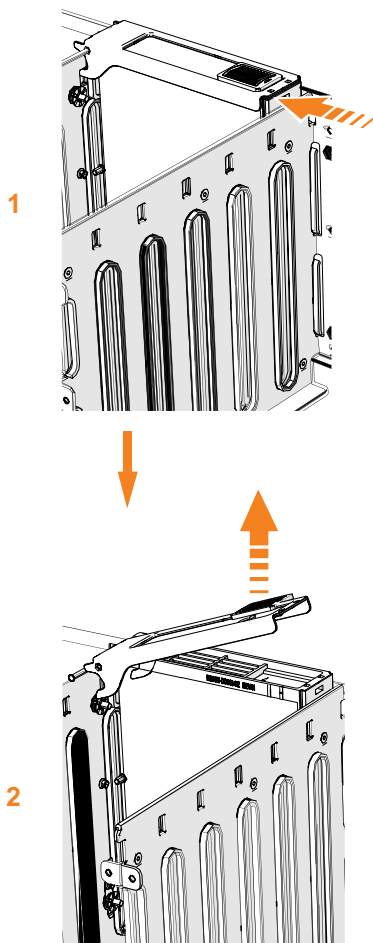

Figure 109. Remove the drive assembly
- Slide the release latch forward (**1**), as shown in Figure 109 on page 117.
6. Lift the handle (**2**) to unlock the drive carrier from the partition, as shown in Figure 109. Ensure the toe on the bottom of the latch is fully disengaged.